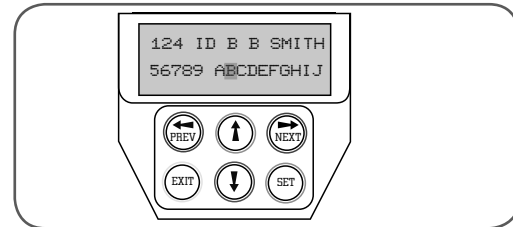

fig 42
2. Press UP or DOWN to scroll through and select new character (**Fig. 42**).